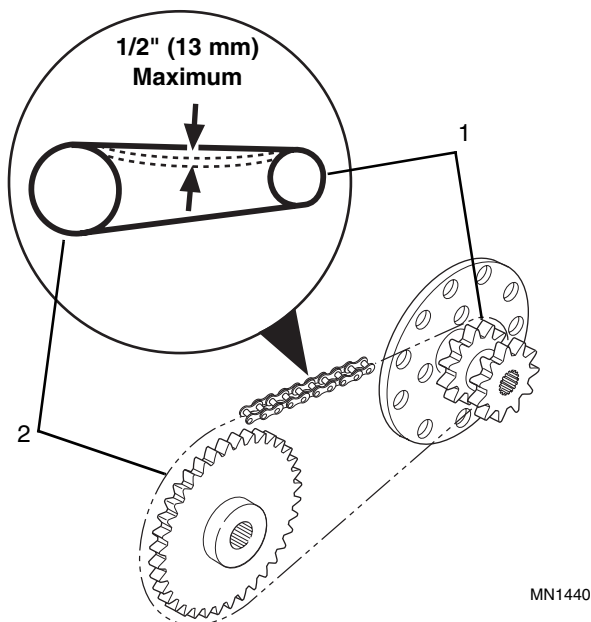

Figure 6-2 Drive Chain Tension
7. Chain tension is checked by measuring the deflection (total up and down movement) of an individual chain, at a point midway between the drive sprocket (Fig. 6-2, 1) and axle sprocket (2). Check the deflection of all four drive chains. Chain deflection must not exceed 1/2" (13 mm). If adjustment is required, refer to Section 6.3.2, "Drive Chain Tension Adjustment."